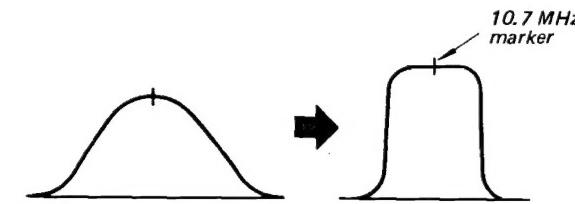

Fig. 3-5
2. Turn the core of fm if transformer (IFT F101) and discriminator transformer (IFT F202) to obtain the maximum amplitude response curve shown in Fig. 3-5.